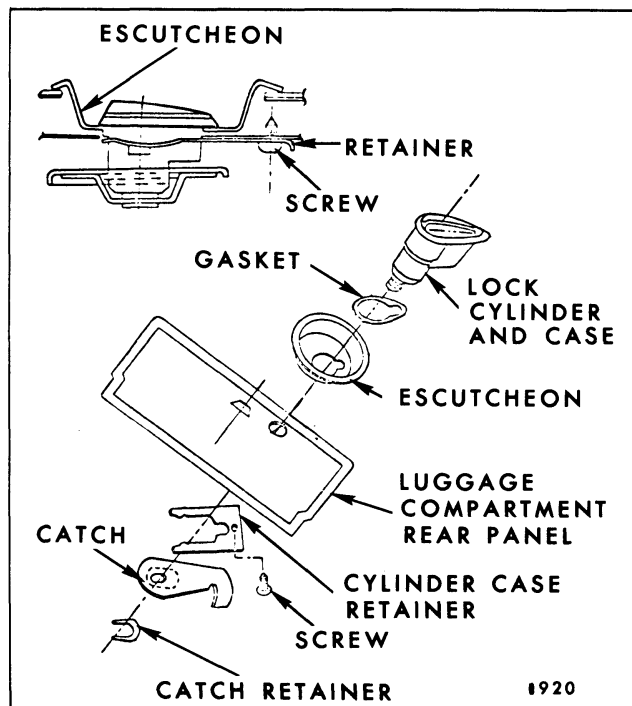

Fig. 9-80-Luggage Compartment Lock - "A" Body Styles
2. On underside of luggage compartment rear panel remove catch retainer and catch from lock cylinder case, then, turn lock cylinder with key until cylinder can be removed from case (Fig. 9-80).
2. On underside of luggage compartment rear panel, remove catch retainer and catch (Fig. 9-80).
3. Remove lock cylinder case retainer screw and retainer; then, remove lock cylinder and case, gasket and escutcheon from panel (Fig. 9-80).